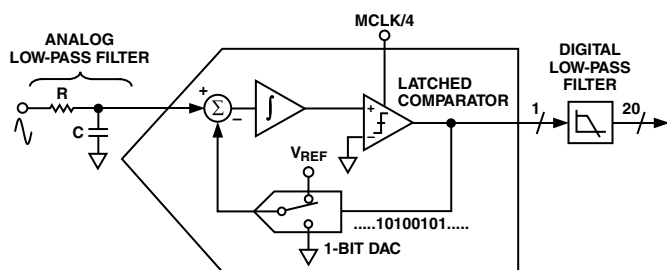
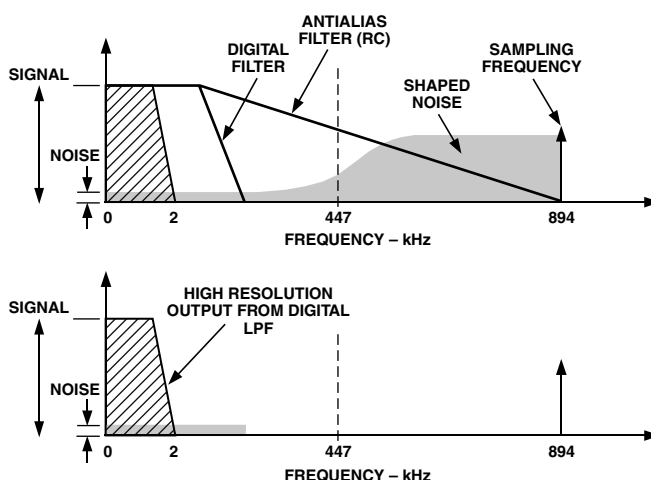
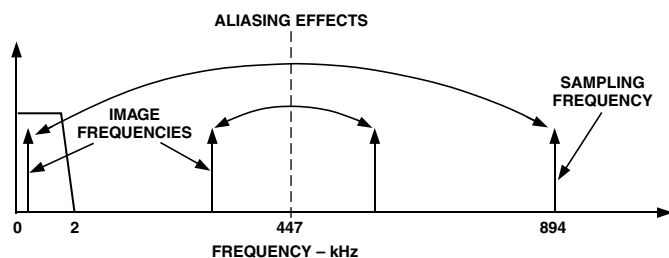

Figure 19. First Order Sigma-Delta (Σ - Δ) ADC
Figure 20. Noise Reduction Due to Oversampling and Noise Shaping in the Analog Modulator
Figure 21. ADC and Signal Processing in Channel 1
The analog-to-digital conversion in the ADE7759 is carried out using two second-order sigma-delta ADCs. The block diagram in Figure 19 shows a first-order (for simplicity) sigma-delta ADC. The converter is made up of two parts, first the sigma-delta modulator and second the digital low-pass filter.
the signal is sampled at a rate (frequency) that is many times higher than the bandwidth of interest. For example, the sampling rate in the ADE7759 is CLKIN/4 (894 kHz) and the band of interest is 40 Hz to 2 kHz. Oversampling has the effect of spreading the quantization noise (noise due to sampling) over a wider bandwidth. With the noise spread more thinly over a wider bandwidth, the quantization noise in the band of interest is lowered—see Figure 20. However, oversampling alone is not an efficient enough method to improve the signal-to-noise ratio (SNR) in the band of interest. For example, an oversampling ratio of 4 is required just to increase the SNR by only 6 dB (one bit). To keep the oversampling ratio at a reasonable level, it is possible to shape the quantization noise so that the majority of the noise lies at the higher frequencies. This is what happens in the sigma-delta modulator: the noise is shaped by the integrator, which has a high-pass type response for the quantization noise. The result is that most of the noise is at the higher frequencies, where it can be removed by the digital low-pass filter. This noise shaping is also shown in Figure 20.
Figure 19 also shows an analog low-pass filter (RC) on the input to the modulator. This filter is present to prevent aliasing. Aliasing is an artifact of all sampled systems. Basically, it means that frequency components in the input signal to the ADC that are higher than half the sampling rate of the ADC will appear in the sampled signal at a frequency below half the sampling rate. Figure 21 illustrates the effect. Frequency components above half the sampling frequency (also known as the Nyquist frequency, i.e., 447 kHz) get imaged or folded back down below 447 kHz. This will happen with all ADCs regardless of the architecture. In the example shown, it can be seen that only frequencies near the sampling frequency (894 kHz) will move into the band of interest for metering, i.e., 40 Hz–2 kHz. This allows us to use a very simple LPF (low-pass filter) to attenuate these high frequencies (near 900 kHz) and to prevent distortion in the band of interest. For a conventional current sensor, a simple RC filter (single pole) with a corner frequency of 10 kHz will produce an attenuation of approximately 40 dB at 894 kHz—see Figure 20. The 20 dB per decade attenuation is usually sufficient to eliminate the effects of aliasing for a conventional current sensor.